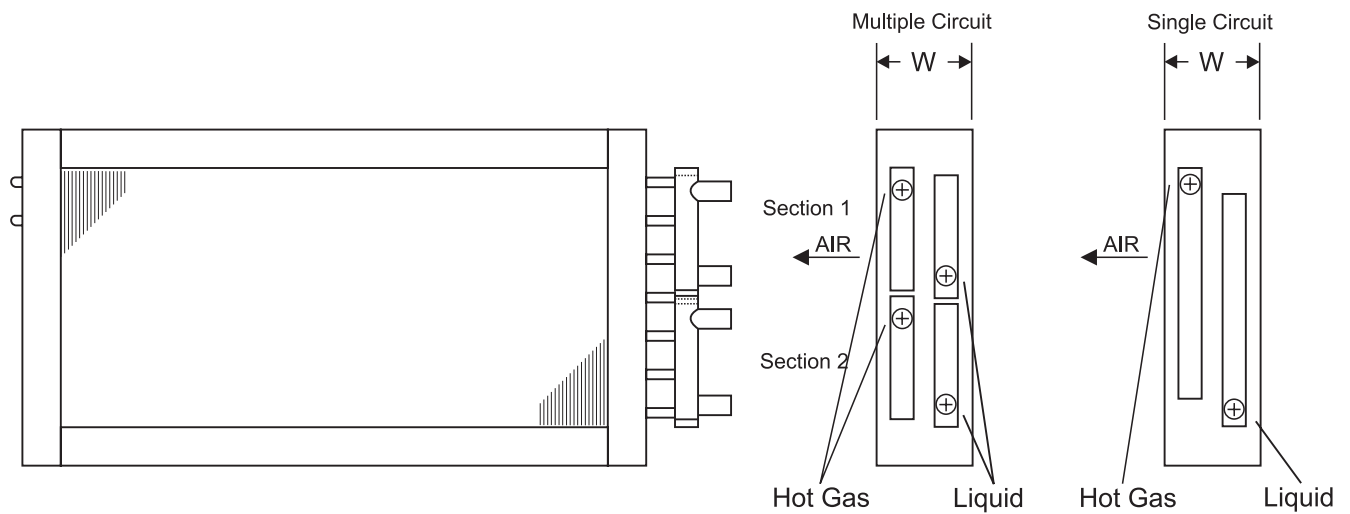

Figure 1 - Condenser Coils
1. Position the coil such that the liquid header is at the entering airside of the coil and the hot gas header is at the leaving airside of the coil. This orientation provides counterflow heat exchange, which is required for proper coil performance. (Fig. 1)
2. The hot gas connection is located at the top of the hot gas header and the liquid connection is located at the bottom of the liquid header when properly installed. (Fig. 1)